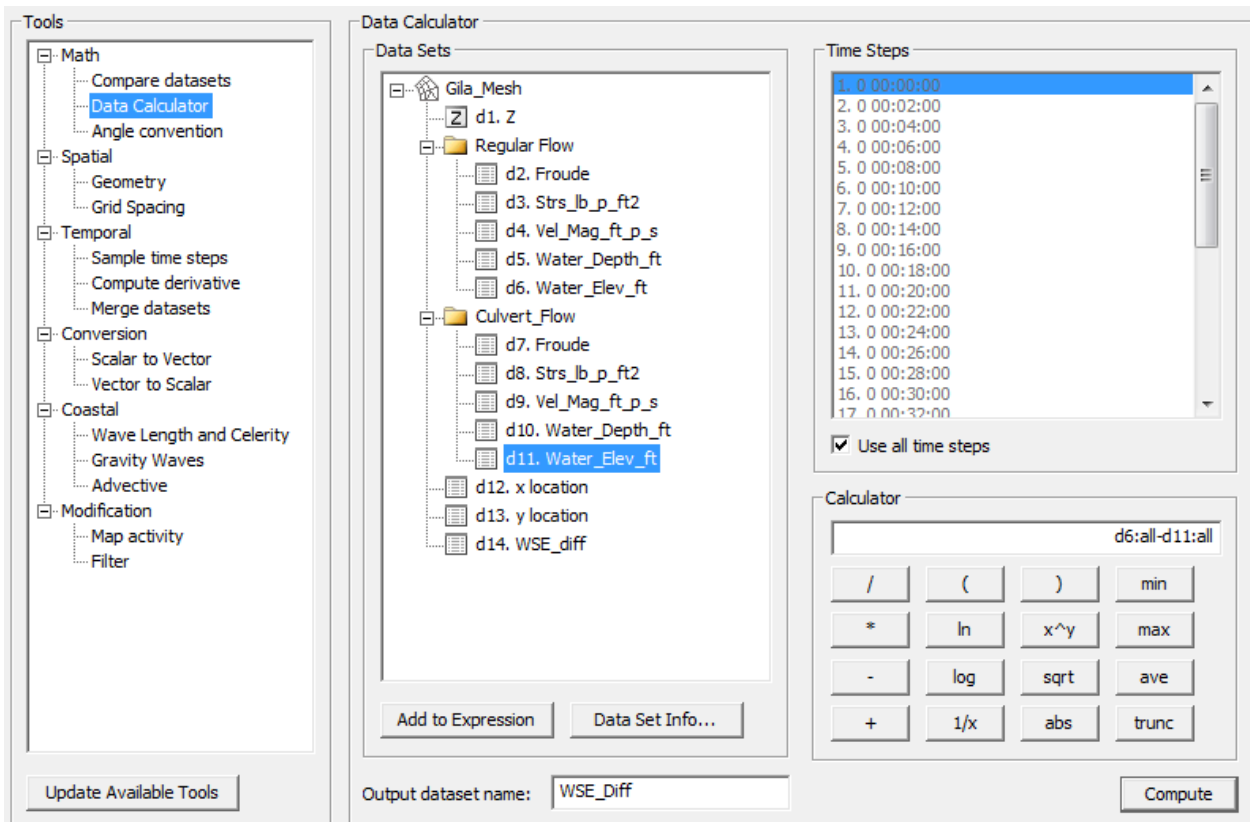

Figure 10 Data Calculator Expression
8. Specify the name of the dataset as “WSE\_Diff” in the *Output dataset name* box. The window should look like Figure 10.